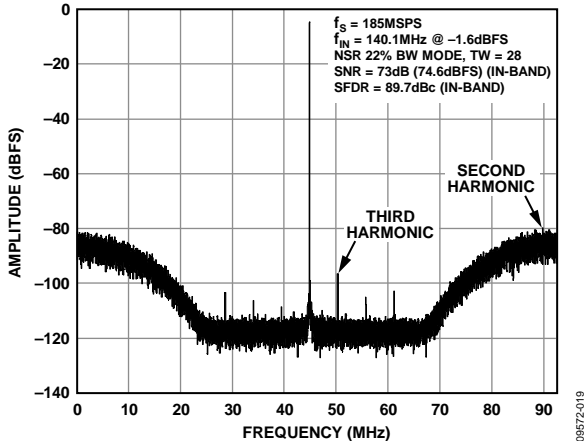

Figure 19. Typical FFT, AD6657 with NSR Enabled
- Click the disk icon within the **Graph** window to save the performance plot data as a .csv formatted file. See Figure 19 for an example.